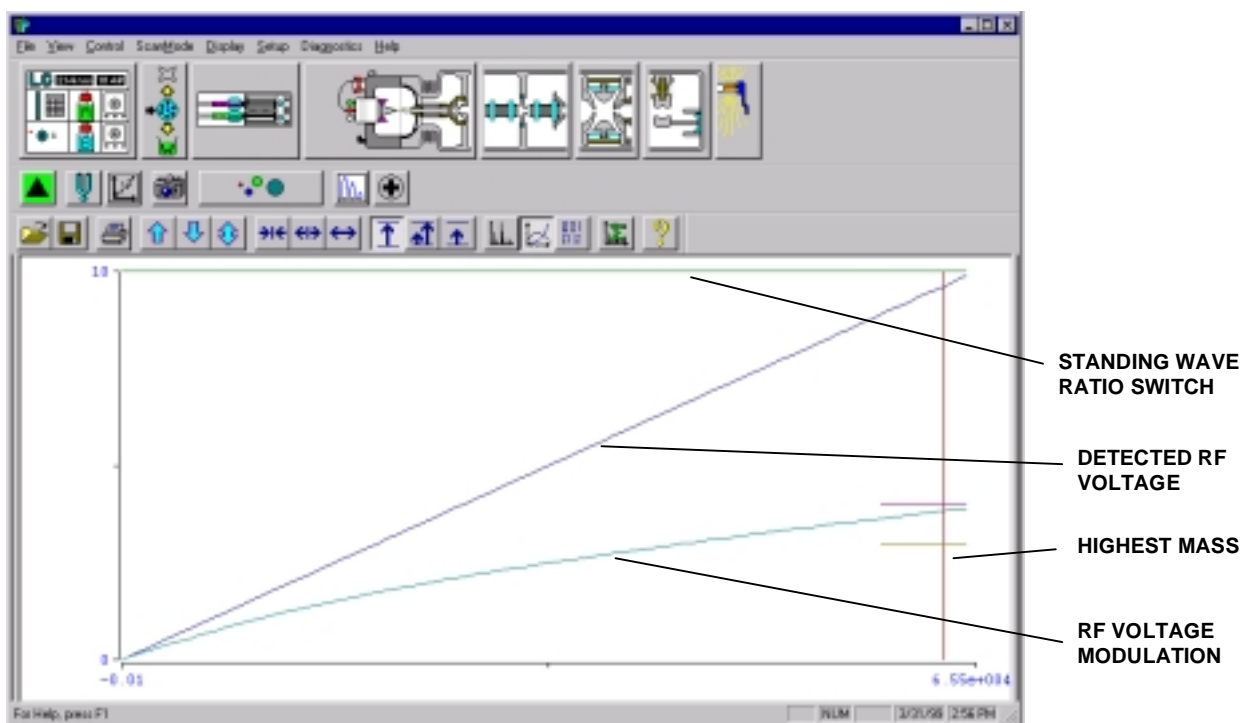

Figure 5-6. Graph view for ring electrode RF voltage modulation tuning
- c. Start the ring electrode RF modulation tune program. The Graph view should look like Figure 5-6: